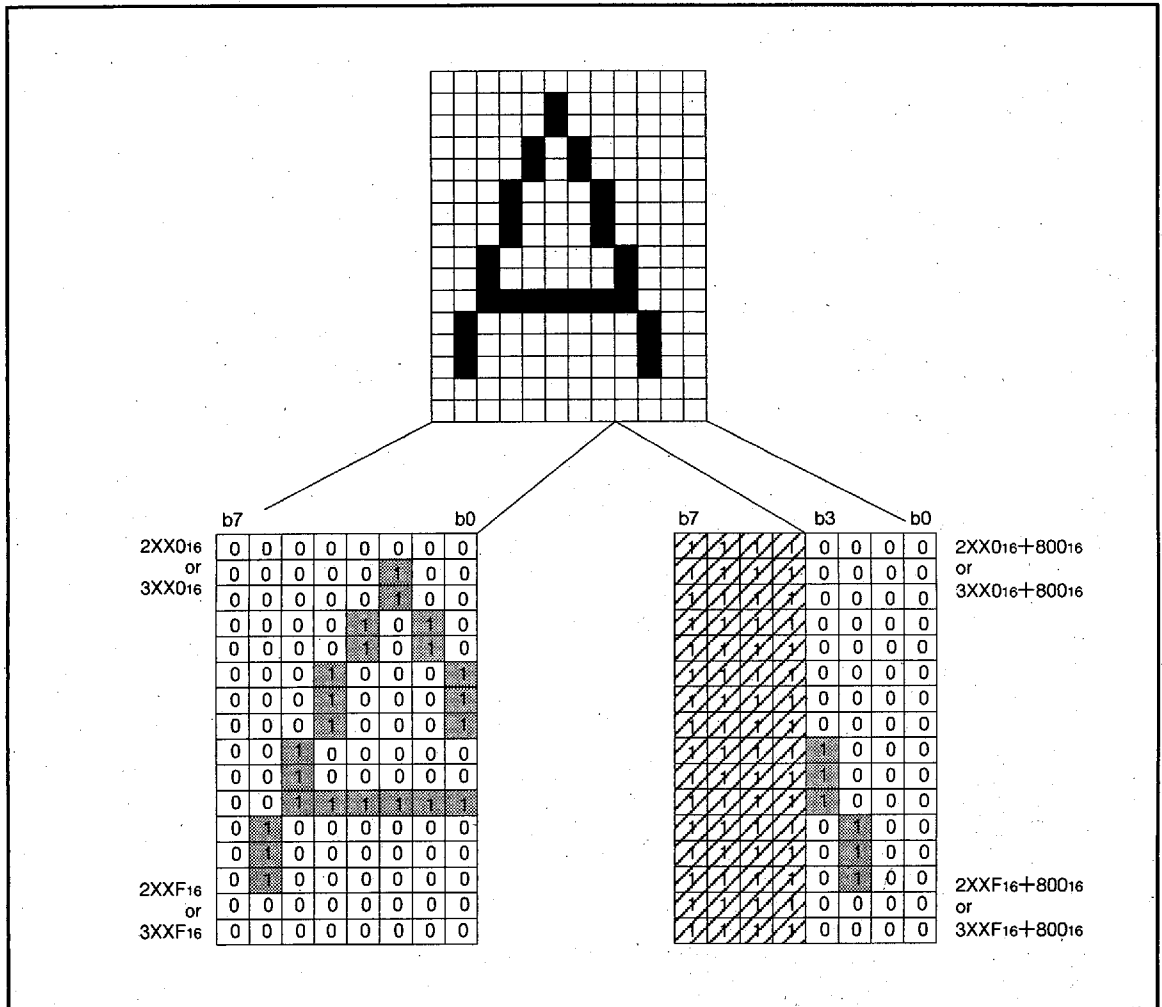

Fig. 37. Display character stored data
The CRT display ROM space is broadly divided into 2 areas. The [vertical 16 dots] × [horizontal (left side) 8 dots] data of display characters are stored in addresses 200016 to 27FF16 and 300016 to 37FFF16; the [vertical 16 dots] × [horizontal (right side) 4 dots] data of display characters are stored in addresses 280016 to 2FFF16 and 380016 to 3FFF16 (refer to Figure 37). Note however that the high-order 4 bits in the data to be written to addresses 280016 to 2FFF16 and 380016 to 3FFF16 must be set to "1" (by writing data "FX16").
For example, to display 1 character position (the left edge) in block 1, write the character code in address 100016 and write the color register No. to the low-order 2 bits (bits 0 and 1) in address 108016. The color register No. to be written here is one of the 4 color registers in which the color to be displayed is set in advance. For details on color registers, refer to (5) Color Registers. The structure of the CRT display RAM is shown in Figure 37.